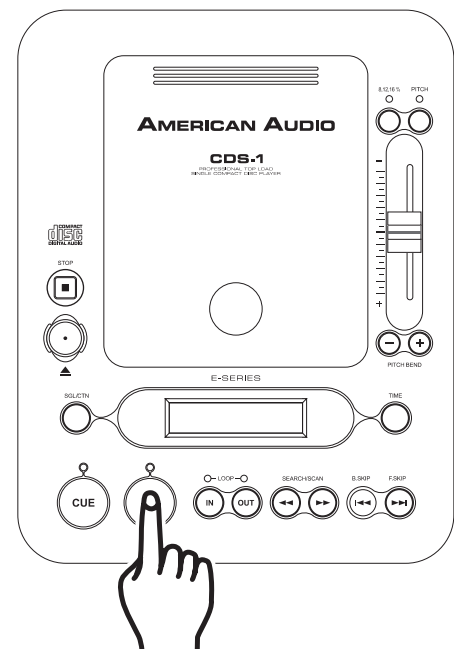

Figure 6
B. LCD DISPLAY (FIGURE 6)
30. TIME BAR INDICATOR - This bar visually details the time defined in the *TIME METER* (36, 37, & 38). As with the *TIME METER* (36, 37, & 38), this bar is also dependent on the selected time function (*TOTAL REMAIN* (32), *REMAIN* (33) OR *ELAPSE* (31). This bar will begin to flash when 15 seconds of a track remain and will begin to rapidly flash when three seconds of a track remain. The flashing bar is a great visual reminder a track is about to end. The flashing bar will function regardless of which time mode the unit is in.
31. ELAPSE INDICATOR - This indicator is in direct reference to the *TIME METER* (36, 37, & 38). When the *ELAPSE* indicator is displayed in the LCD, the time defined will refer to a single track's elapsed time. The time mode is changed by the tapping on the *TIME button* (17).
32. TOTAL REMAIN INDICATOR - This indicator is in direct reference to the *TIME METER* (36, 37, & 38). When the *TOTAL REMAIN* indicator is displayed in the LCD, the time defined will refer to a disc's total remaining time. The time mode is changed by tapping on *TIME button* (17).
33. REMAIN INDICATOR - This indicator is in direct reference to the *TIME METER* (36, 37, & 38). When the *REMAIN* indicator is displayed in the LCD, the time defined will refer to a single track's remaining time. The time mode is changed by tapping on *TIME button* (17).